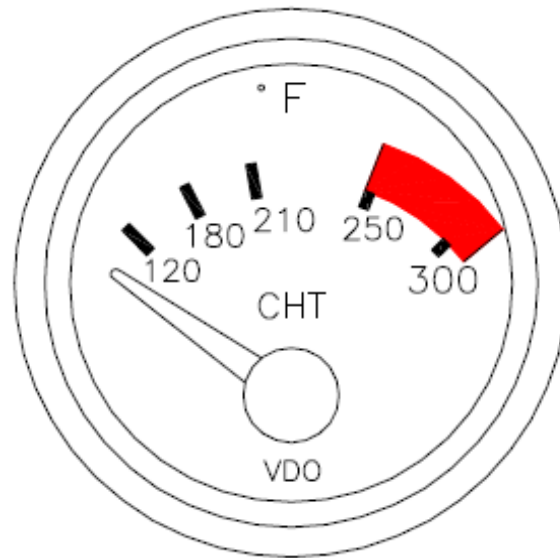

Figure 1 - CHT Cockpit Panel Gauge
- 10.2.1 Refer to the template on page 5 (Figure 1) of this service bulletin.